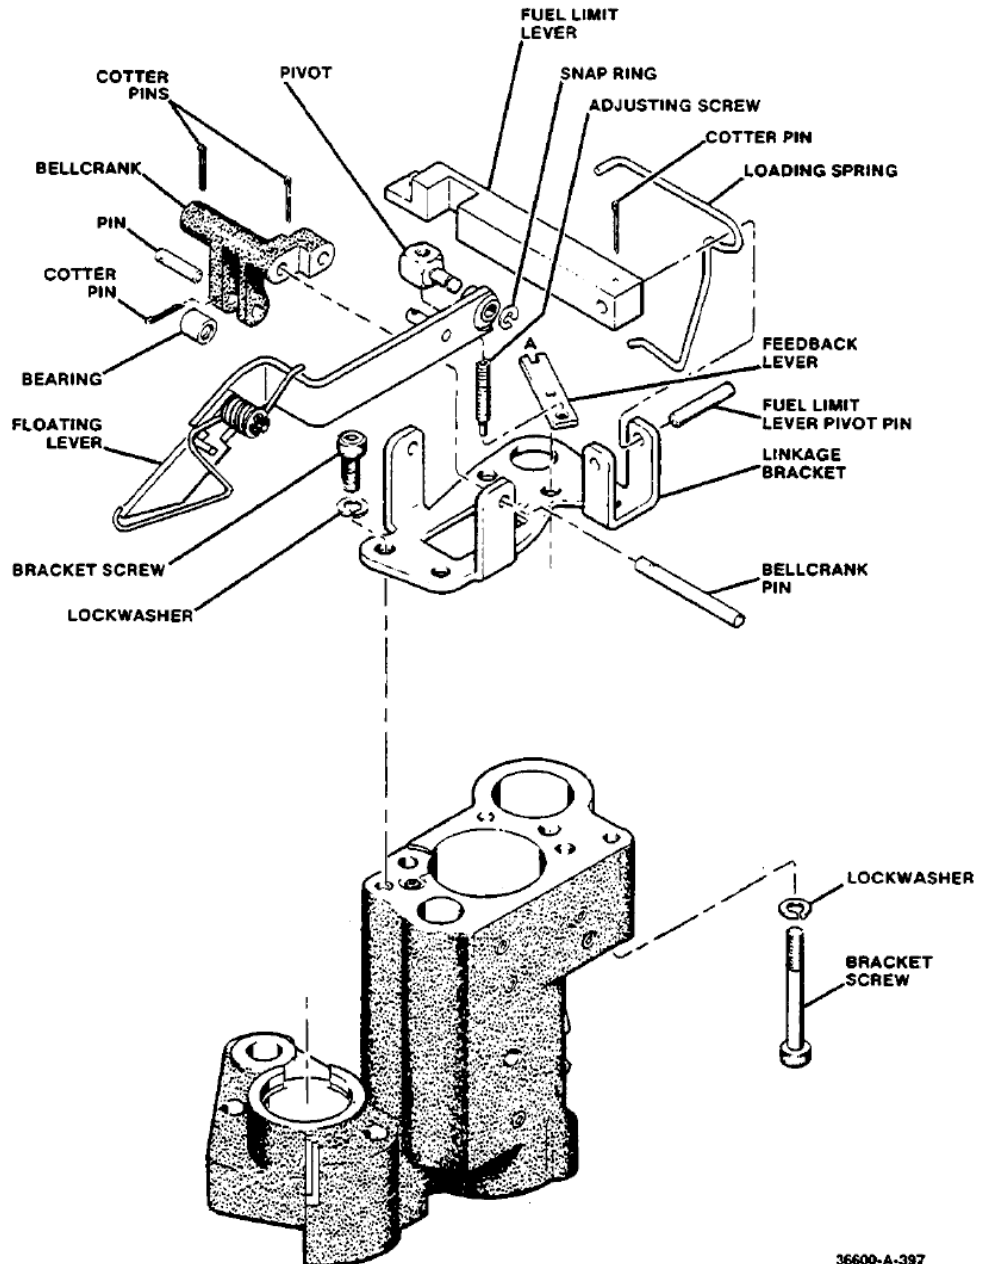

Figure 5-26. Fuel Limit Bracket and Linkage
- a. Remove snap ring and lift out pivot and adjusting screw (Figure 5-26).